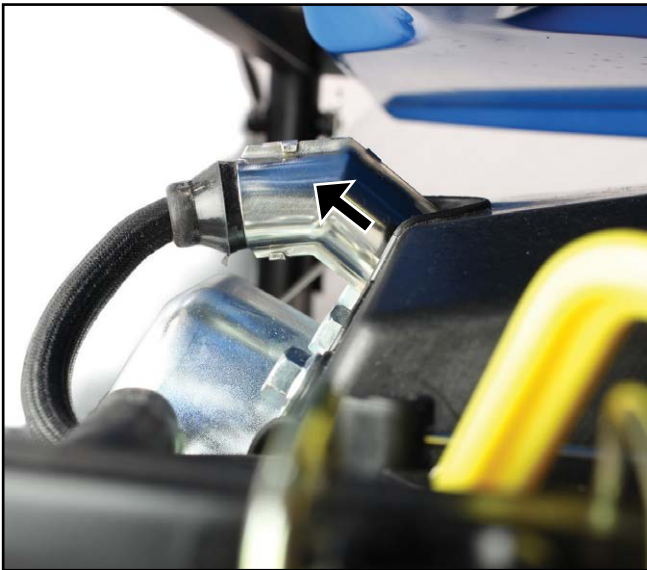

Figure 47 – Removal of Spark Plug Boot
- Remove the spark plug boot by firmly pulling it directly away from the engine (see *Figure 47*).